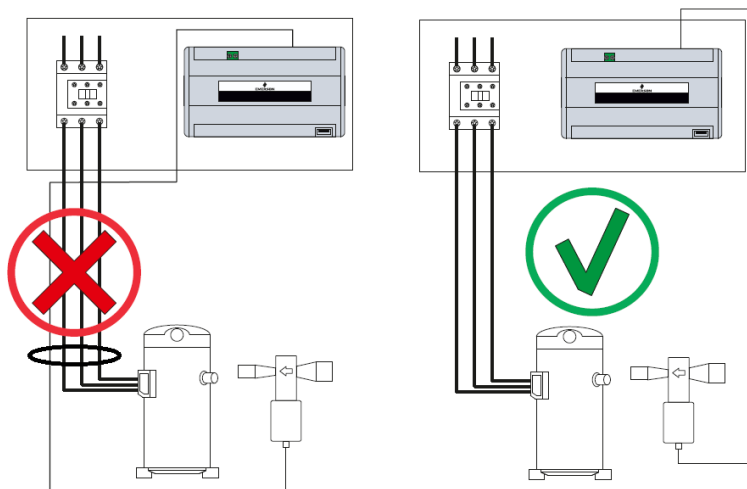

Figure 16: Example of wrong connection
- Separate the signal cables from the power cables. It is recommended to follow the diagram in **Figure 16** below as far as possible.